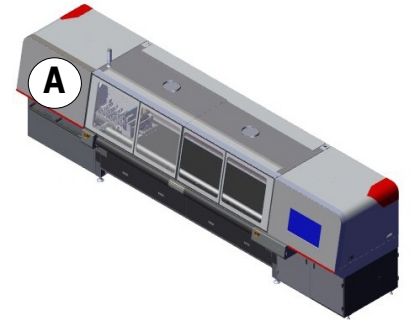

Figure 6-28 Printer Front View
1. Open carriage compartment door, Figure 6-28 location (A).